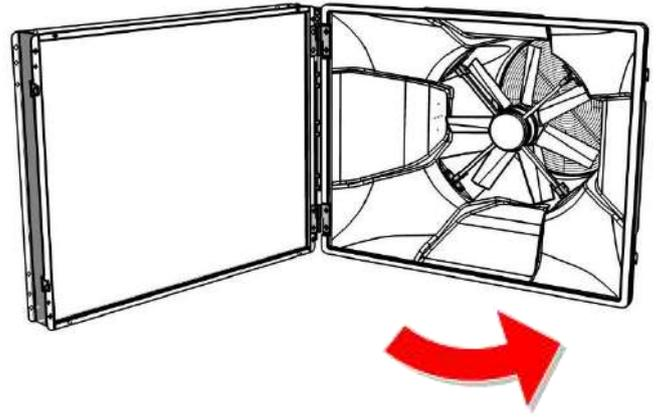

Fig. 4.4.2
- Open the fan compartment (Fig. 4.4.2)